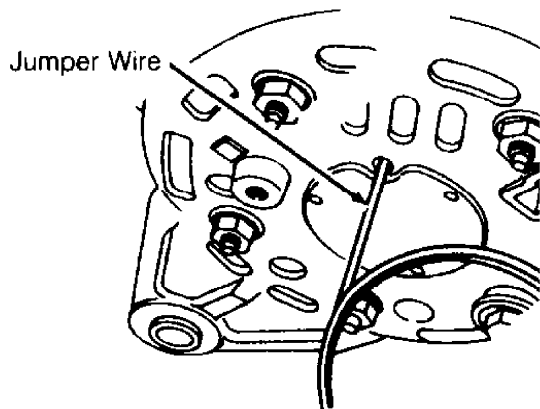

Fig. 1: Full-Fielding Hitachi Alternator
2) If light comes on, reconnect alternator connector. Full-field alternator by grounding internal terminal "F" with a wire. See Fig. 1. If light goes out, repair or replace alternator. If light is on, replace regulator.